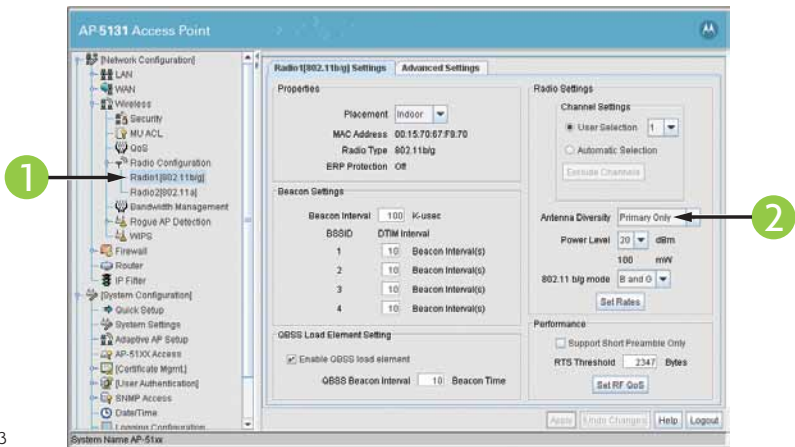

Figure 3
Consult your AP-5131 documentation to access the Radio Configuration Software to configure Radio 1 to use only the Primary Antenna Port. Using the Left side navigation tree, navigate to the Radio 1 (802.11 b/g). The file path is: Network Configuration\Wireless\Radio Configuration\Radio 1 (802.11 b/g) (Figure 3) ①. In the Radio Settings dialog box set Antenna Diversity drop down to Primary Only (Figure 3) ②. Then apply your change.